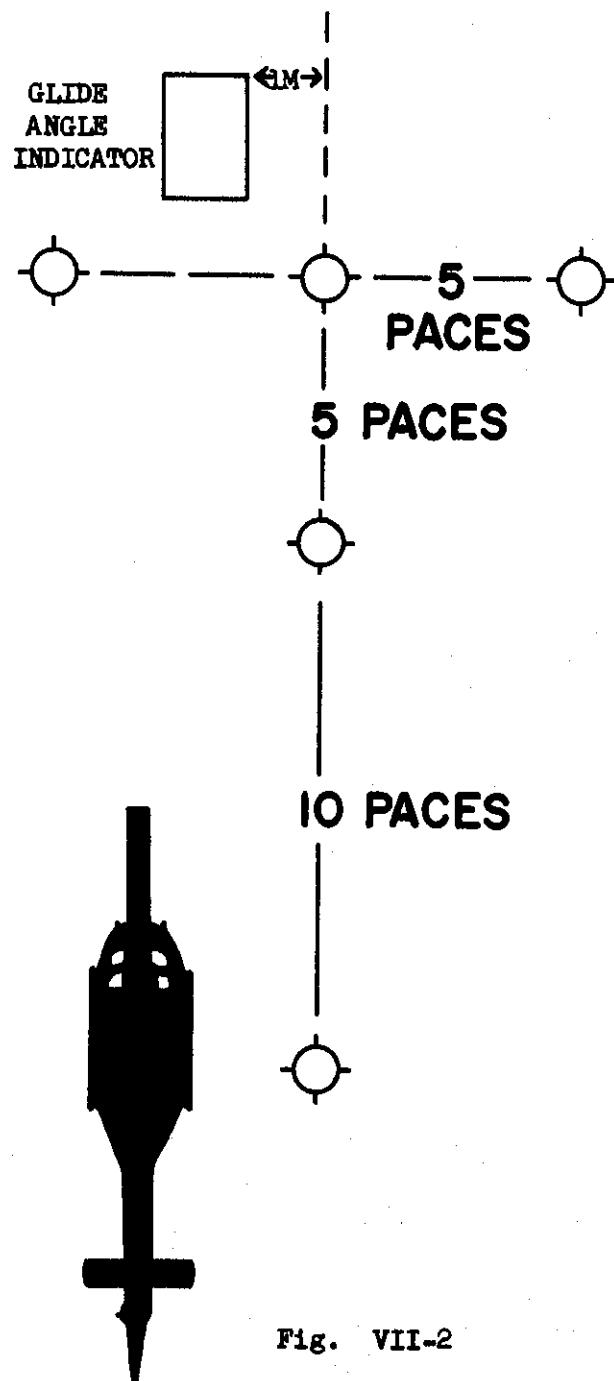

Fig. VII-2
b. Performance of maneuver. The glide angle indicator projects a strong beam of three adjacent colors: Amber, green, and red. (Fig. VII-1) The indicator is placed on the right front of the helipad touchdown point with the beam projected up the final approach. (Fig. VII-2) The approach path is identified by the green colored beam. The amber beam identifies the aircraft as being above the approach path and the red beam identifies the aircraft as being below the approach path. The aviator will call the airfield for clearance to land and maintain final approach altitude until he sees and intercepts the green beam of the indicator. He will then start and maintain his descent down the green indicator which will allow him to make an approach over trees and other obstructions to the helipad. The aviator will direct his attention to the green indicator until he can see the ground around his aircraft at which time he will land to the left rear of the "T".